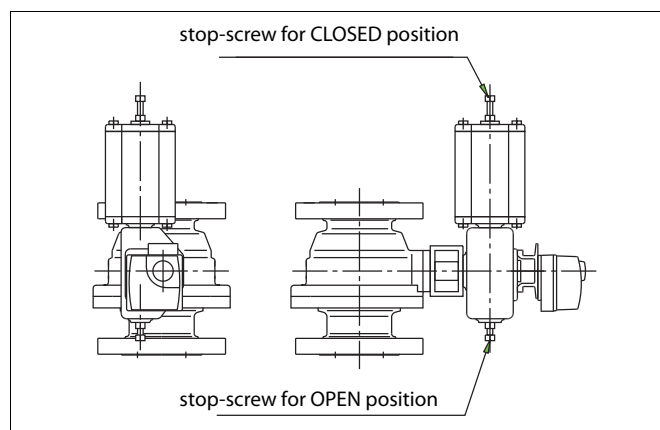

Fig. 31 Open and closed positions of the B series actuators
- ❑ Detach the actuator using a suitable extractor, see Fig. 31. The tool can be ordered from the manufacturer.